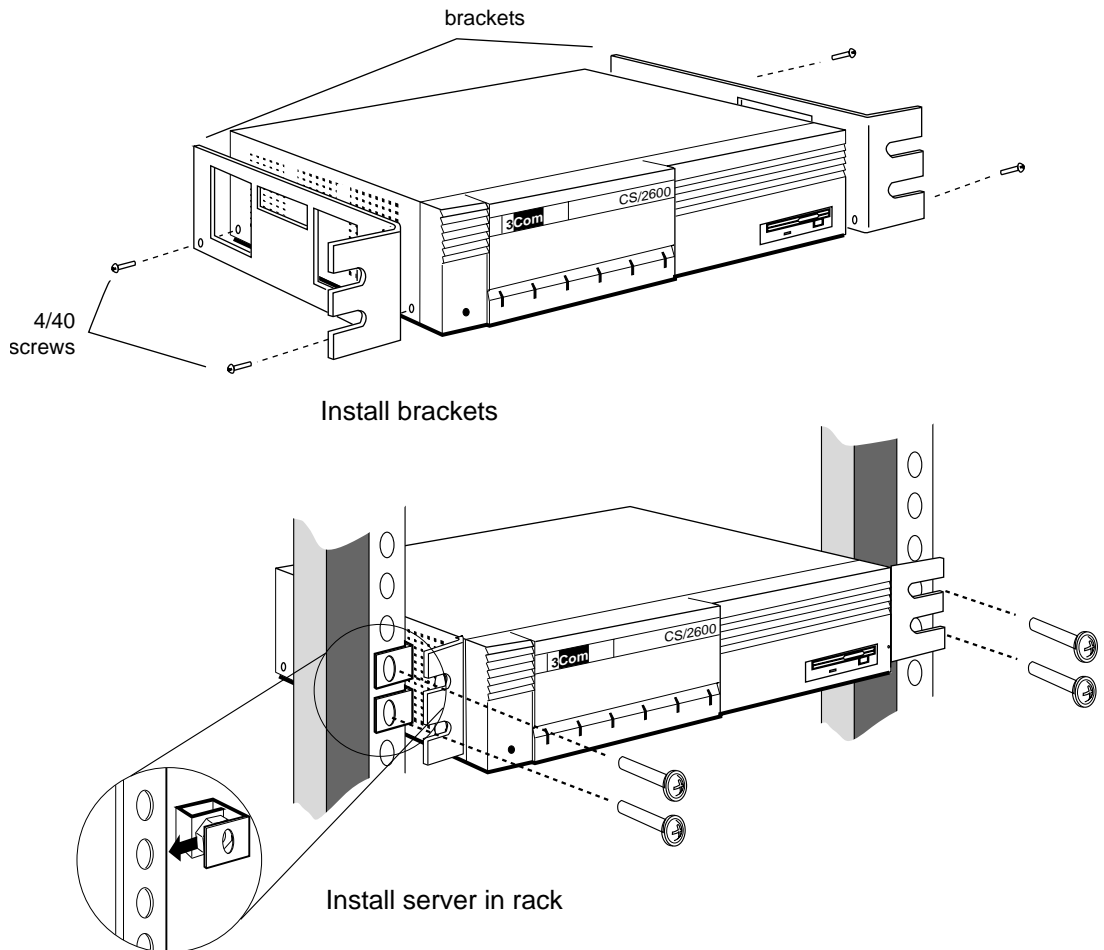

Figure 2-1 Mounting in a Rack
Remove the two outer screws from the sides of the server with the #1 Phillips screwdriver. Using the #4-40 screws provided, fasten a bracket to each side of the server, as shown in Figure 2-1. Tighten each screw securely.
- 2 Slip two spring-clip captive nuts over the holes of each rack pole where you want to install the server (see Figure 2-1).
One person should hold the server between the poles of the rack, while the other attaches the server to the poles. Attach the server to the rack with the four #10-32 panhead screws using the #2 Phillips screwdriver, as shown in Figure 2-1. Tighten each screw securely.